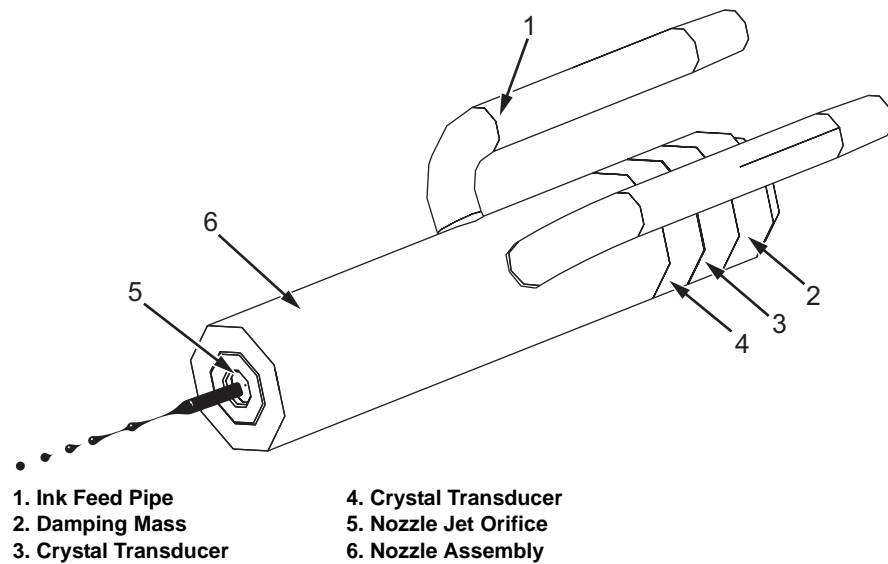

Figure 3-51: Ink Jet Formation
- 9 An electrically conductive ink is supplied under pressure by the ink core to the nozzle assembly (item 6, Figure 3-51) through the ink feed pipe (item 1).
- 10 An ink stream is formed as the ink is forced out of the nozzle jet orifice (item 5).